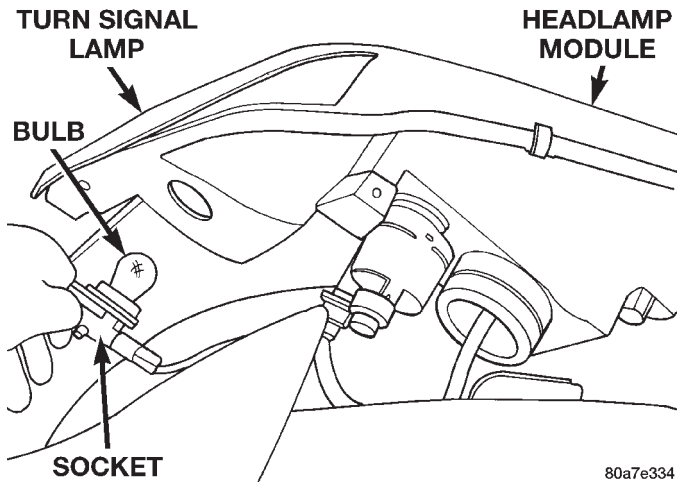

Fig. 4 Turn Signal Lamp Bulb
- (1) Release hood latch and open hood.
- (2) Remove screws holding headlamp module to radiator closure panel.
- (3) Separate headlamp module from radiator closure panel.
- (4) Rotate socket counterclockwise one quarter turn.
- (5) Pull socket from back of lamp (Fig. 4).
- (6) Twist and pull bulb from socket.